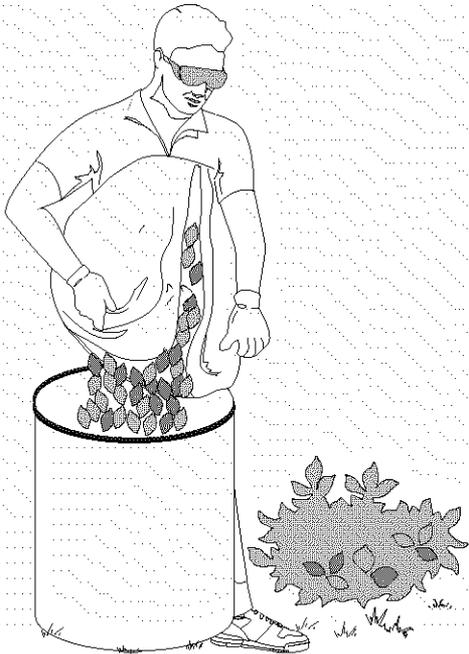

Fig. 9
2. Disconnect unit from power source before removing bag. Once removed, shake the bag vigorously while emptying to completely remove the contents (Fig. 9).